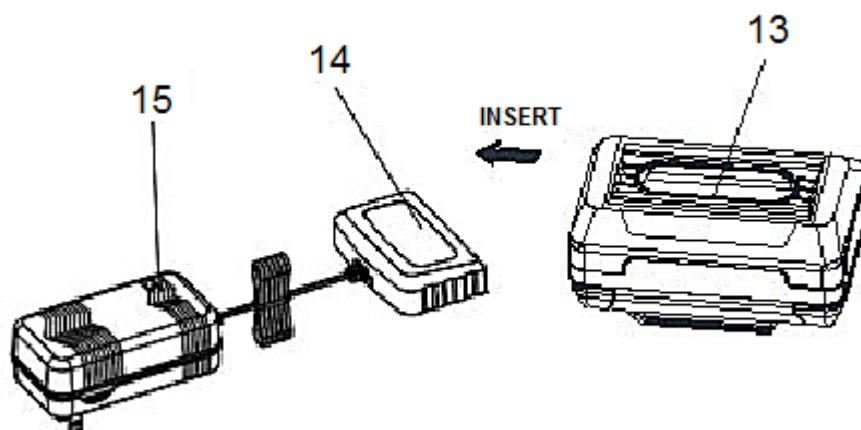

Fig. 6
- 1) Plug the charger into an appropriate AC power outlet. The red indicator (15) lights up to tell you that the charger is ready for use.
- 2) Insert the battery pack (13) into the charger (14), as shown in Fig 6, making sure the pack is fully seated in the charger. The green indicator (15) flashes 1Hz to tell you that the battery pack is on charge.